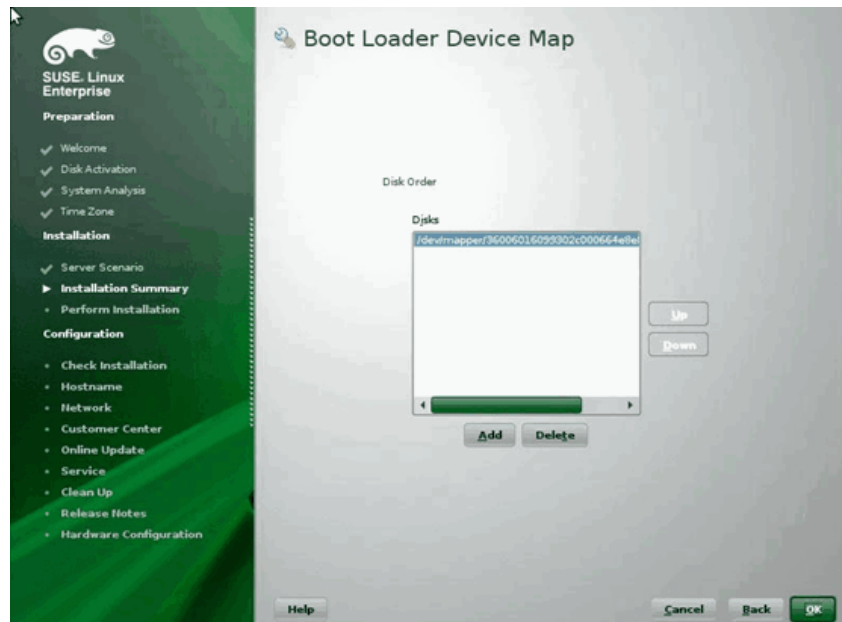

Figure 14-20. Boot Loader Device Map
13. Click the **Boot Loader Installation** tab, and then select **Boot Loader Installation Details**. Make sure you have one boot loader entry here; delete all redundant entries (Figure 14-20).